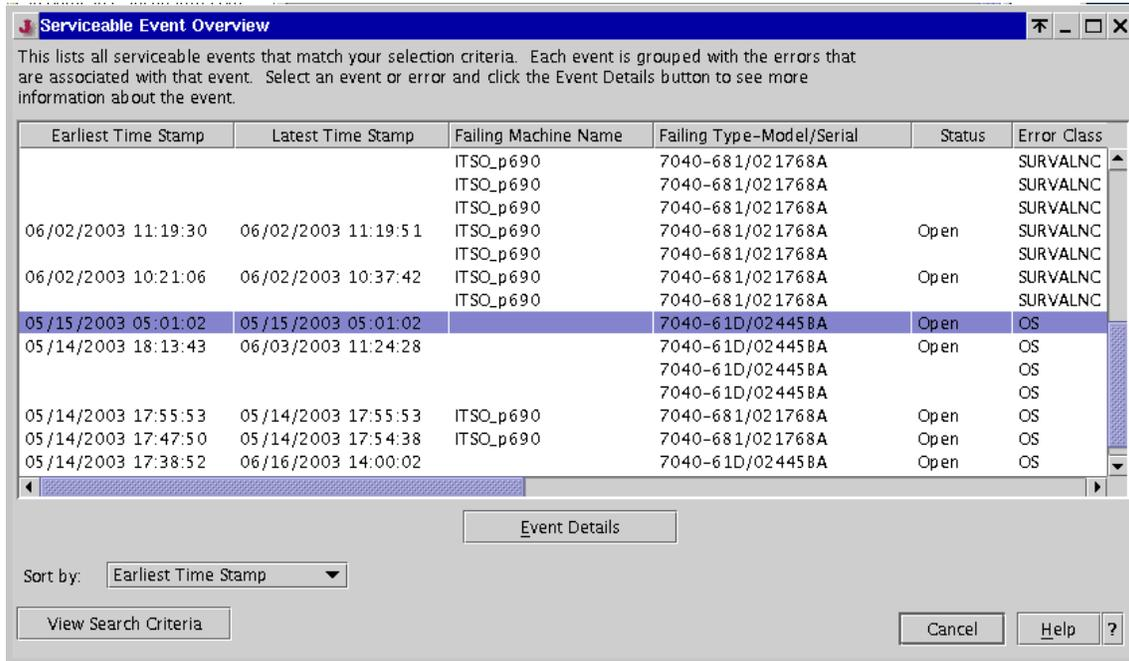

Figure 11-17 Serviceable Event Overview
3. The Serviceable Event Overview window appears when the search is done. Click on an event to be viewed and click **Event Details**, as shown in Figure 11-17 on page 267.